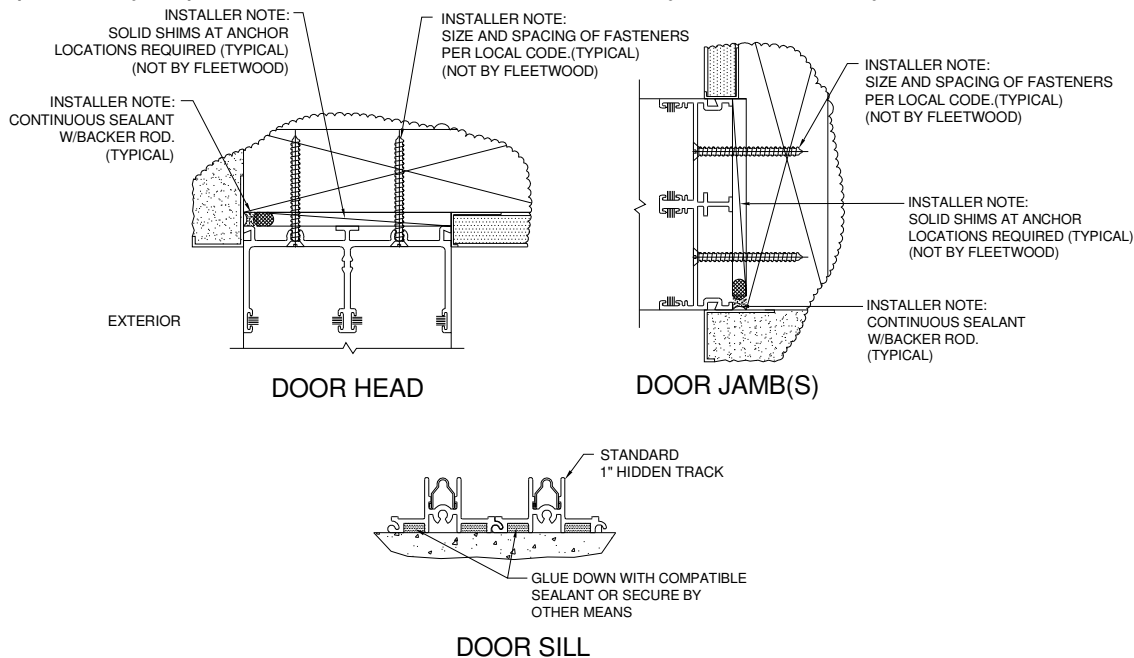
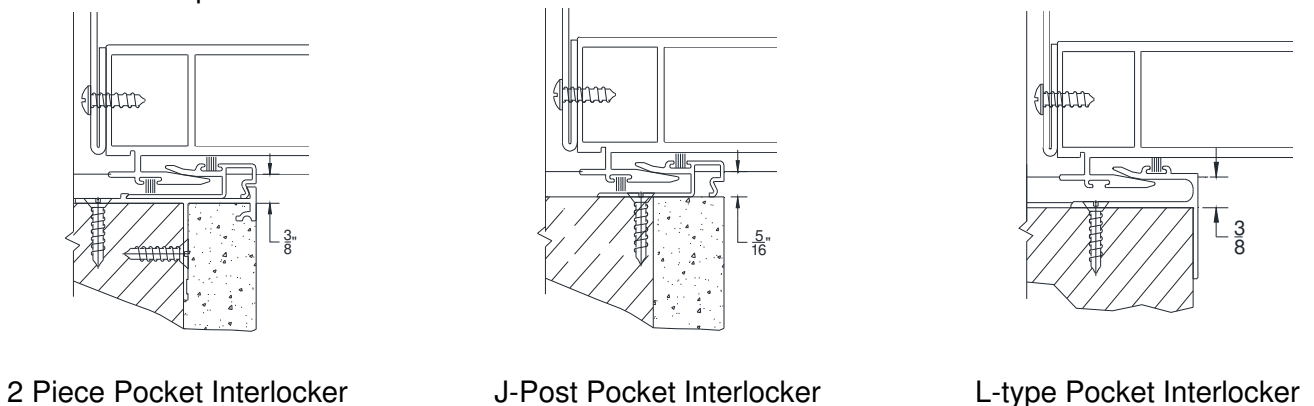

Figure 7:
Figure 8:
2. Attach frame to structure as shown below (Figure 7). On pocket doors it is important to locate the frame 3/8" from the inside pocket wall where a 2-piece and L-type Pocket Interlocker is used to allow for proper interlocking of panel with post interlocker. On installations where the J-Post Pocket interlocker clip is only used, a 5/16" distance is required. Figure 8 illustrates the different Pocket interlocker options.
Note: PX and XP door panels can be taken out by removing the lock stile and the Pocket Interlocker clip attached to the frame. Dependent on the pocket interlocker type, removal of the wall may be necessary (Figure 8, Figure 14-16).